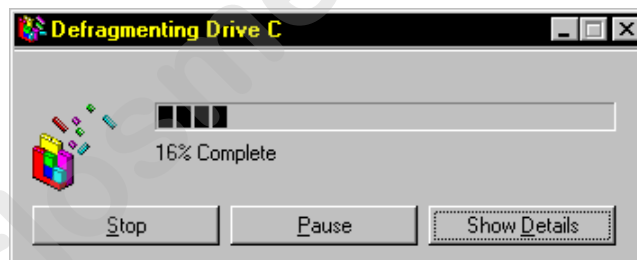

Figure A.30 Defragmenting Drive C Dialogue Box
5. Click the **Start** button to begin the defragmentation. This brings up the **Defragmenting Drive C** dialogue box. Refer to Figure A.30.